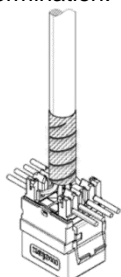
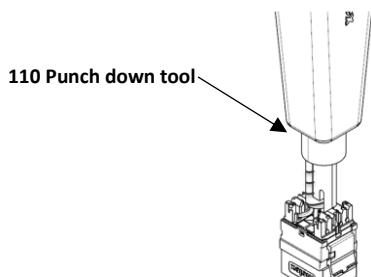
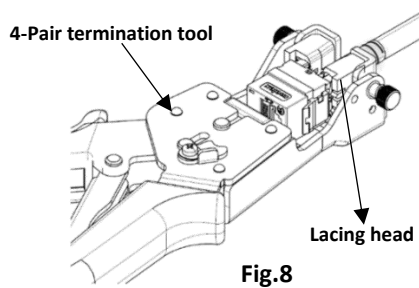

Fig.6
Fig.7
Fig.8
2. Untwist cable pairs and place the cables as per wiring map (Fig.6) and punch down wires to corresponding Jack IDC contacts with 110 punch down tool (Fig.7). Molex also recommends 4-Pair Termination Tool (Fig.8) using Lacing head for termination.